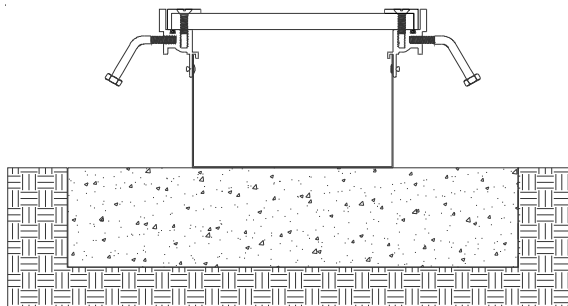

Figure 3
STEP 4. Assemble the trench cover on the support pad, splicing the liner and frame sections of the assembly in accordance with the procedures provided in the appropriate sections of these installation instructions (see Figure 3). Refer to the section of these instructions entitled "SPLICING TRENCH AND ACCESS COVER FRAMES" and the section of these instructions entitled "SPLICING TRENCH LINERS" for procedures for assembling the frames and liners. Place the trench cover into the assembled frame. Ensure that the cover is properly aligned in the frame.